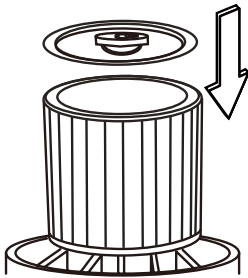

Fig. 8
17. Place the filter retainer 20 on the top of the cartridge filter 19 over the raised lip and tighten down by turning the retainer clockwise; do not over-tighten. Fig. 8 & 9.